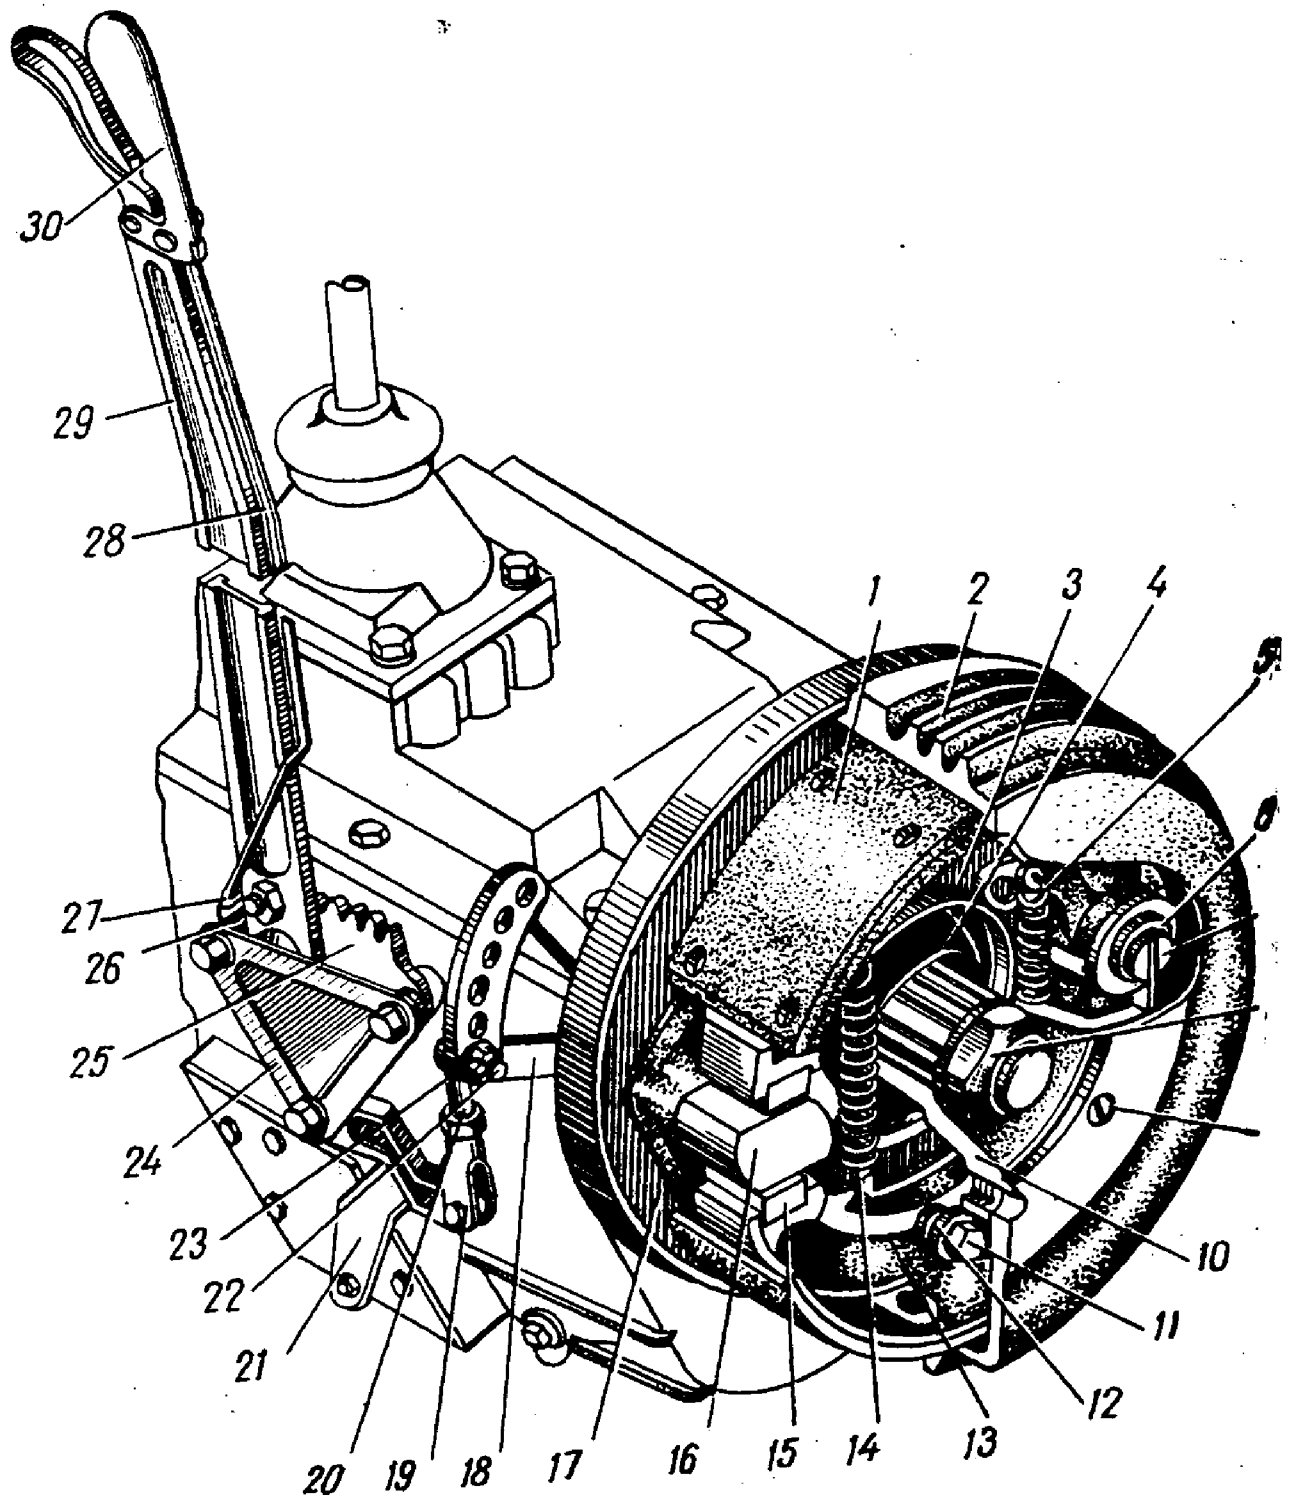

FIG.42. HAND BRAKE OF ЗИЛ-130 TRUCK
1. Unscrew locknut 32 (Fig.41) of linkage rod clevis 22 on the 3M-131 truck and lock nut 20 (Fig.42) of the linkage rod on the 3M-130 truck.
3. Disconnect rod clevis 23 (Fig.41) and clevis 19 (Fig.42) from the hand brake lever.
If a fully shortened rod fails to engage the brake, when the stop latch is clicked through four to six teeth, reinstall clevis pin 16 (Fig.41) and clevis pin 22 (Fig.42) of the rod in the next hole of adjusting lever 17 (Fig.41) and lever 18 (Fig.42) of the brake and lock with a cotter-pin.